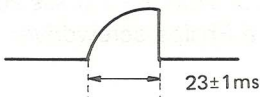

Figure 38
3. Monitoring TP4 with an oscilloscope (internal trigger), adjust R788 to meet the requirement given in Figure 38.